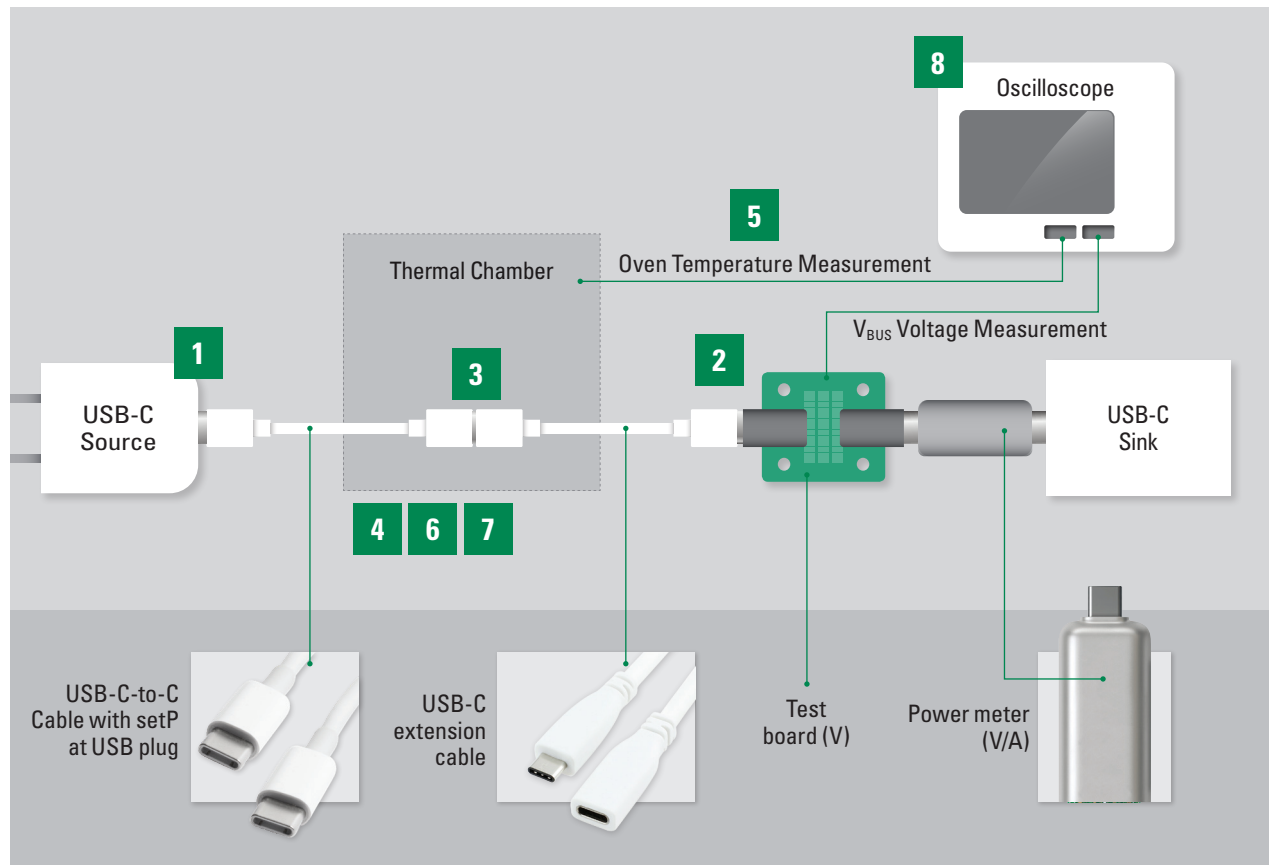

Figure 7. Design verification method 1 test setup
■ Design Verification Test Method 1: External heat from a thermal chamber (Figure 7)